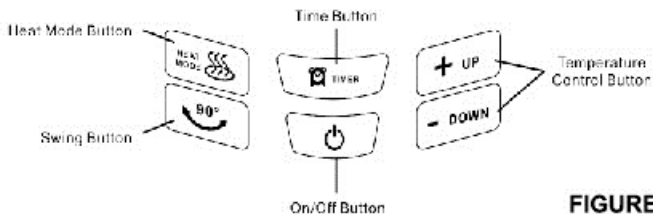
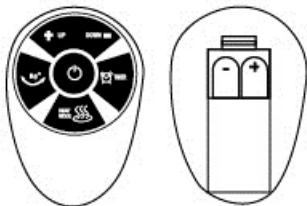

FIGURE 1
FIGURE 3
The Heater may be operated by the controls located on the Heater (as shown in FIGURE 1) or by your remote control (shown in FIGURE 3).
4. Turn the Heater ON by pressing the ON/OFF button  (FIGURE 1). The unit will display the current ROOM temperature, automatic into "FAN" mode, and blow the cold air.
REMOTE CONTROL (FIGURE 3)
1. Install two "AAA" (not included) batteries as shown in FIGURE 3.